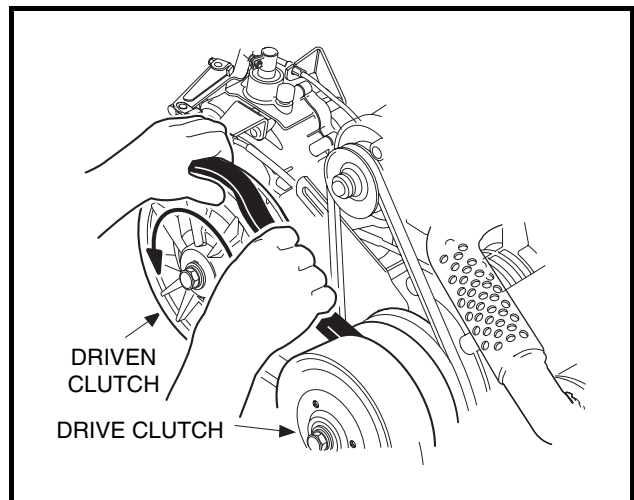

Figure 16-29 Remove Drive Belt
- 16.1. Grasp belt midway between drive and driven clutch and pull up on belt to force the driven clutch sheaves apart. Roll the belt counterclockwise while pulling it off driven clutch (**Figure 16-29, Page 16-13**).